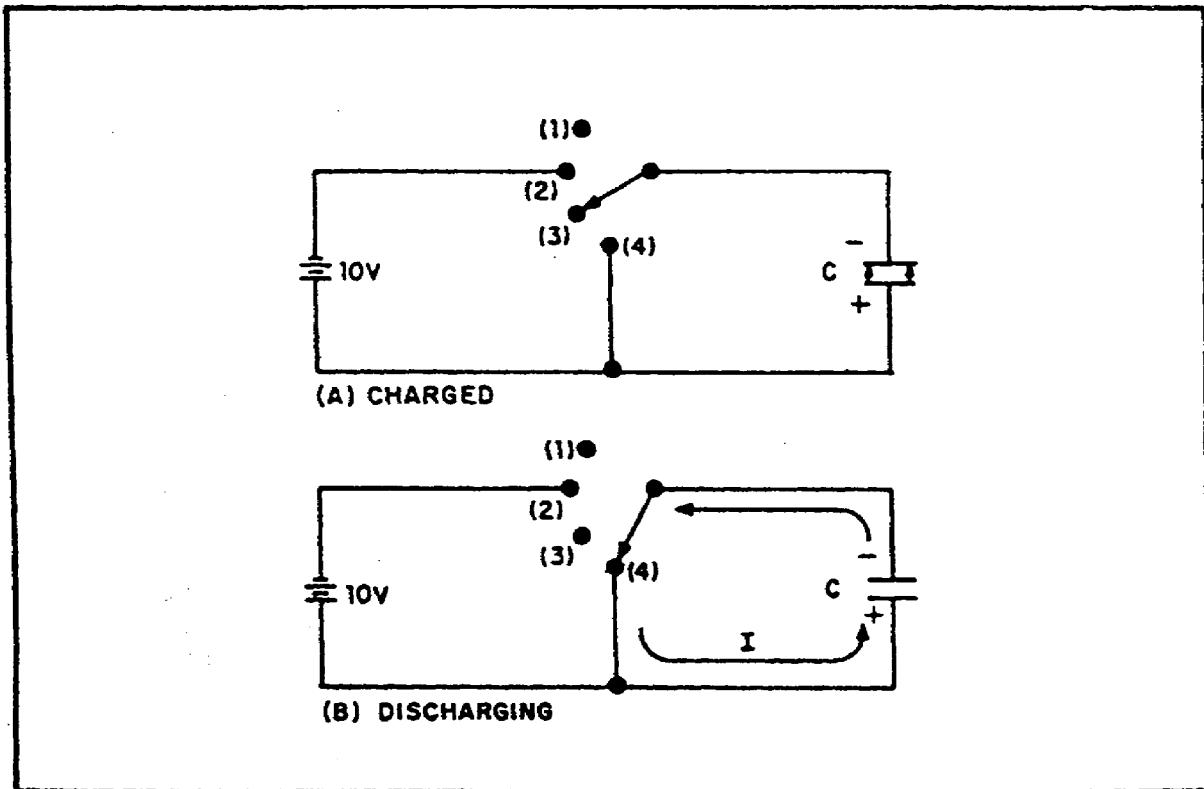

FIGURE 33. DISCHARGING A CAPACITOR.
If the switch is now opened, as shown in figure 33, view A, on the following page, the electrons on the upper plate are isolated. The electrons on the top plate are attracted to the charged bottom plate. Because the dielectric is an insulator, the electrons can not cross the dielectric to the bottom plate. The charges on both plates will be effectively trapped by the electrostatic field and the capacitor will remain charged indefinitely. It should be noted, at this point, that the insulating
(2) *Discharging.* To DISCHARGE a capacitor, the charges on the two plates must be neutralized. This is accomplished by providing a conducting path between the two plates as shown in figure 33, view B, on the previous page. With the switch in position (4), the excess electrons on the negative plate can flow to the positive plate and neutralize its charge. When the capacitor is discharged, the distorted orbits of the electrons in the dielectric return to their normal positions and the stored energy is returned to the circuit. It is important to note that a capacitor does not consume power. The energy the capacitor draws from the source is recovered when the capacitor is discharged.
h. *Charge and Discharge of a Resistance Capacitance (RC) Series Circuit.* Ohm's law states that the voltage across a resistance is equal to the current through the resistance times the value of the resistance. This means that a voltage is developed across a resistance ONLY WHEN CURRENT FLOWS through the resistance.